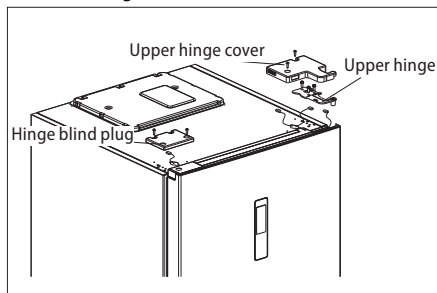

Fig. 1
3. Remove the upper plastic covers, the upper hinge of the refrigerator (Fig. 1) and disconnect the connector located at the upper hinge of the refrigerator (Fig. 1). Remove the refrigerator door and place it in a safe place.